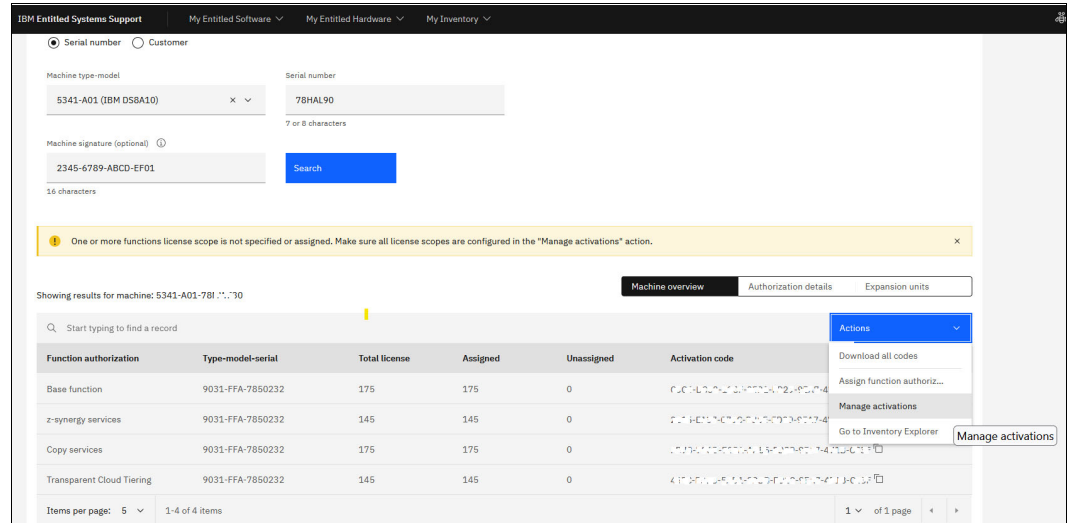

Figure 7-17 ESS View machine summary: New DS8A00 with unassigned scopes
- Figure 7-17 on page 207 shows the View machine summary view of a new DS8A10. The yellow warning bar directs you to go to **Actions** → **Manage Activations** to define the correct license scopes.